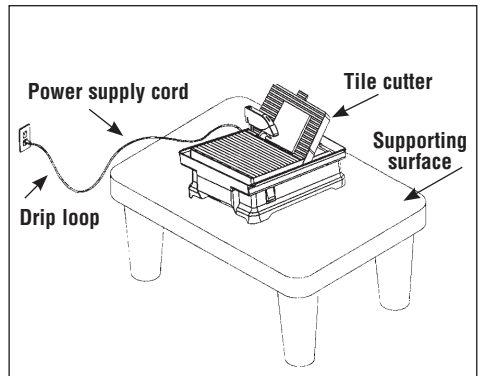

FIGURE 1
28. **POSITIONING OF TILE SAW** (see FIGURE 1)